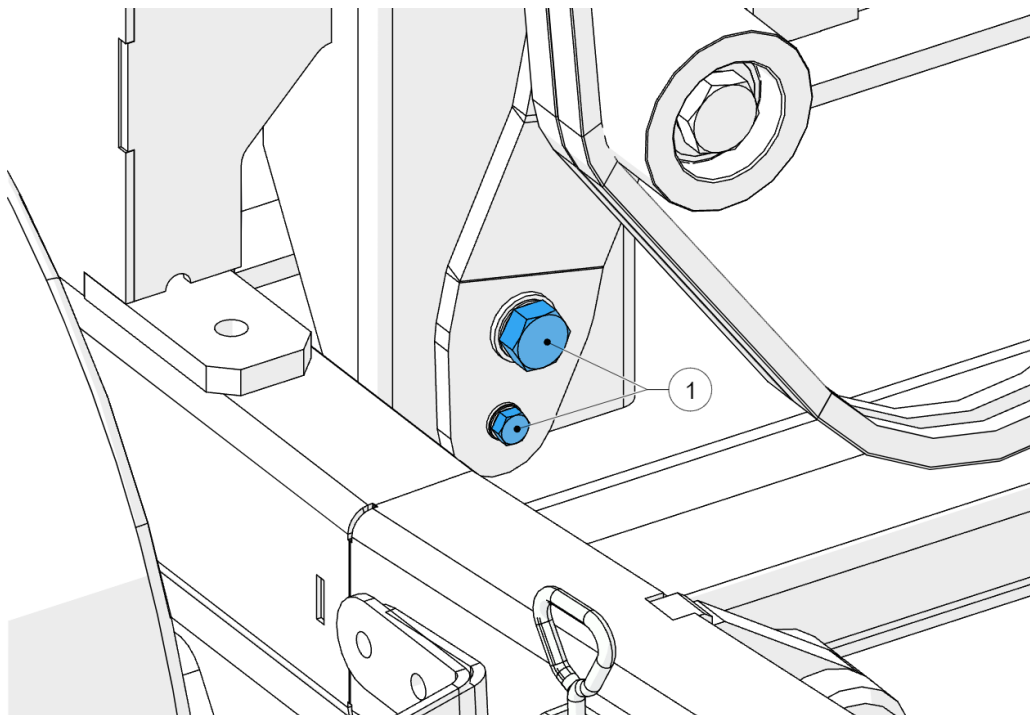

Figure 70 - Main belt tensioner
4. Locate the main belt tensioner (1, Figure 70).